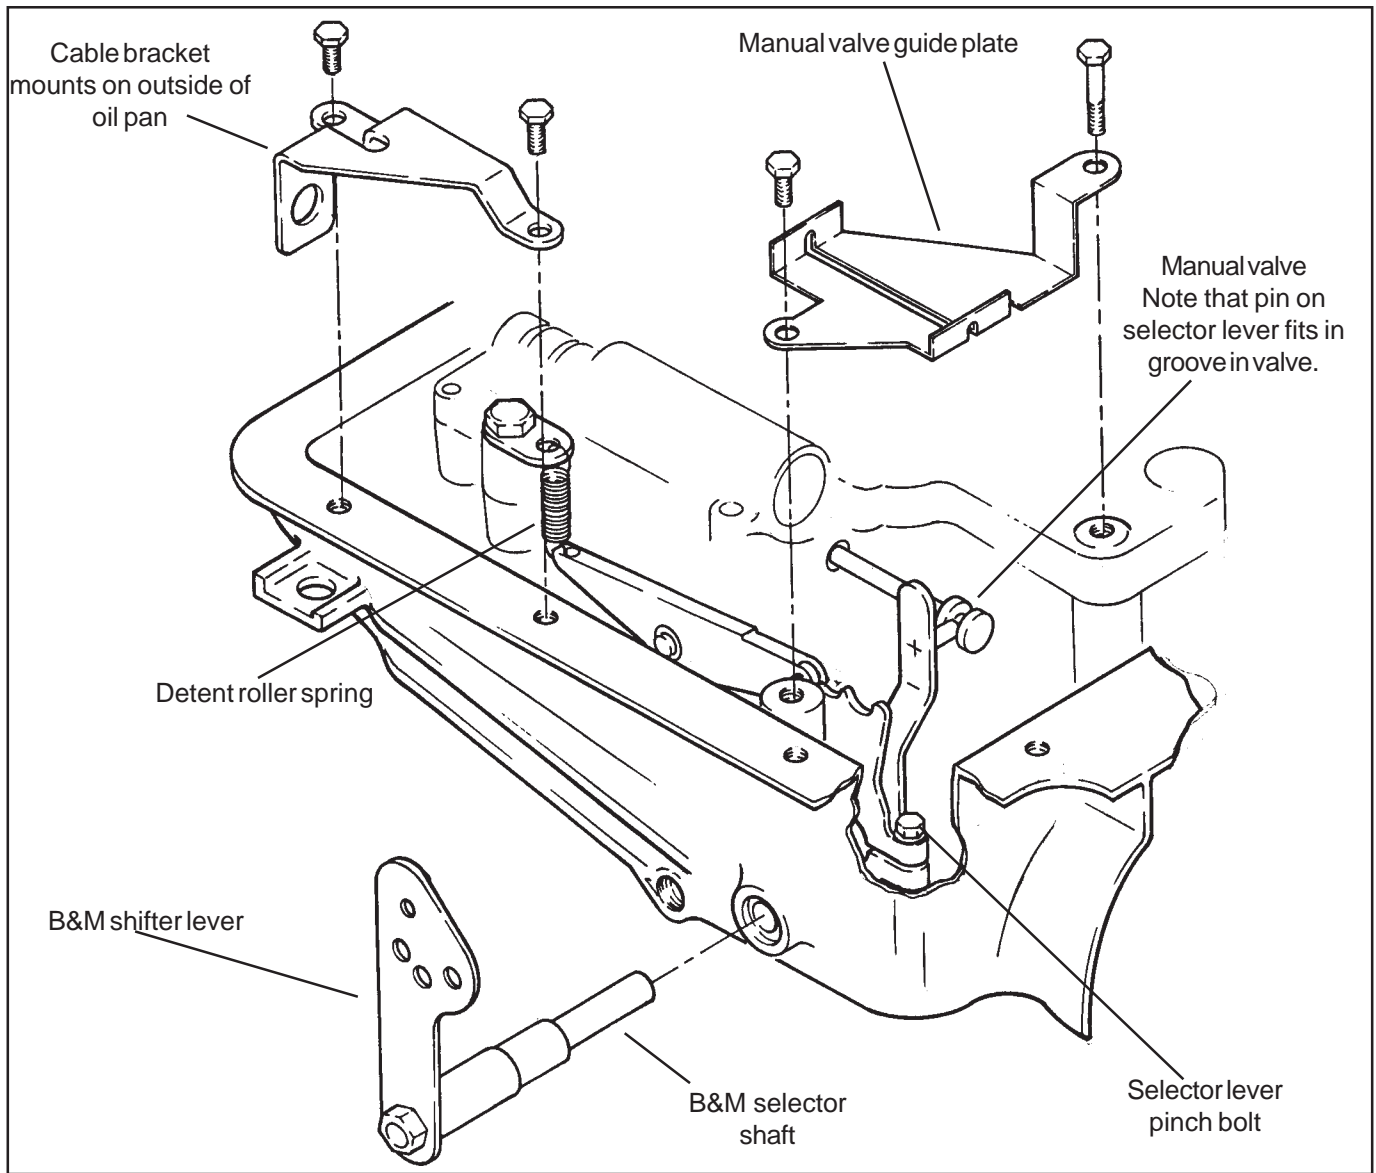

Figure 8
**STEP 27.** Remove the manual valve guide plate by removing the two bolts (**See Figure 8**). Unhook and remove the detent roller spring. Allow the detent roller to pivot out of the way. Note how the pin on the manual valve selector engages the groove in the manual valve.
**STEP 33.** Install the cable bracket into position with the two remaining pan bolts (**See Figure 8**). Install the **B&M** lever onto the shaft with the lever pointing down. If your cable comes from the front (usually a rear engine car) the lever is installed pointing upwards. You will have to make your own cable bracket for this installation.